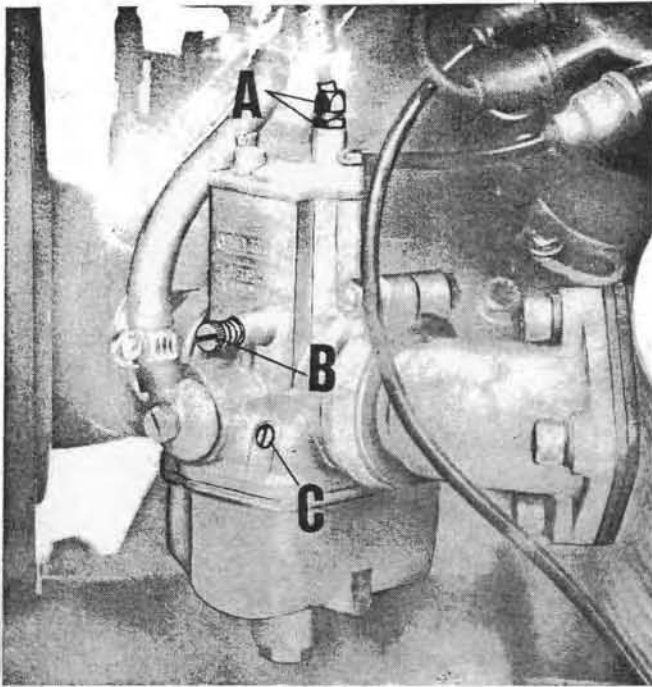

Fig. 71
#### STANDARD CARBURETOR SETTING (Fig. 71)
2. Check synchronization of both gas valves with the filter box and the inlet sleeve disconnected. Turn the throttle grip keeping at the same time your fingers on the carburetor slides to feel if both valves open by the same amount and simultaneously. Should one valve open before the other, this can be corrected by setting screw A Fig. 71 in the position where by turning the throttle both valves open simultaneously.
3. Adjust the idling speed by acting on screw C in Fig. 71. Screwing this in reduces the fuel flow and viceversa increases it. To adjust, tighten and then turn screw out 1 1/2 turns for the L/H carburetor and 1 3/4 to 2 turns for the R/H carburetor.
With the engine running at about 1000-1200 r.p.m., disconnect one of the plug leads and turn screw C (Fig. 71) of the opposite carburetor in or out to the position which will give the best idling speed i.e. when the revs are slightly increasing.
4. Disconnect the R/H cylinder plug lead and after starting the engine, ensure that the engine stops after firing 4 or 5 times. If it dies out sooner or later, it is necessary to adjust idling screw B Fig. 71 setting it at the point where the engine will stop after it has fired 4 or 5 times.
The same operation should be repeated on the right hand cylinder, with the left hand plug lead disconnected. If the R/H cylinder is normal, the engine should stop after firing 4-5 times. If not, screw B Fig. 71 should be adjusted to the position where it does so. Finally, the left cylinder plug lead should be re-connected.